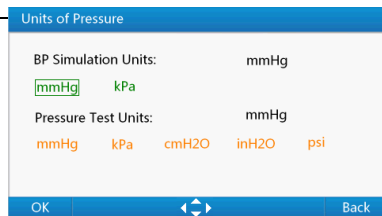

Figure 7 Unit setting interface
1. Use up or down key in "System Setup Menu" to select "Units of Pressure", then press "Enter Key" to the unit setting interface shown as Figure 7, the units displayed with black color are current effective units for BP simulation and pressure test.